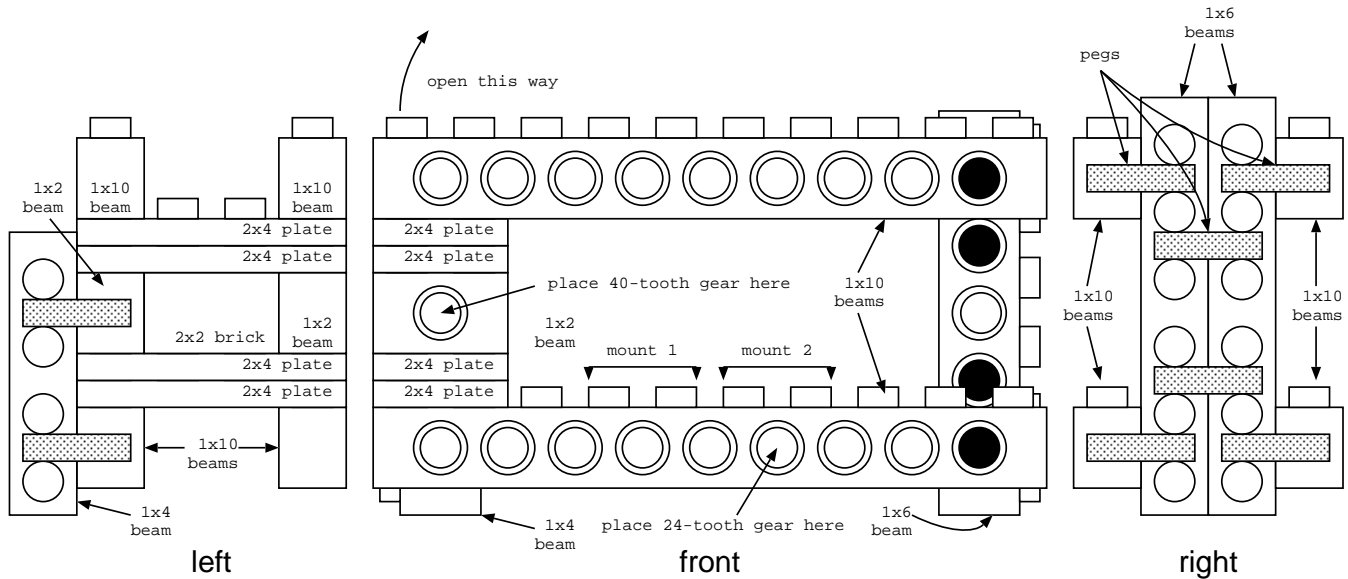

Figure 1: Motor Jig
- **Motor jig.** See the accompanying handouts to find how to construct the jig (the jig is reproduced in Figure 1. This LEGO gadget is useful for ensuring that the gears align. If your motor's gear is even a little bit off, you will notice it in both the performance of your robot and the sound that emanates from your robot. Reducing as much friction between LEGOs will lead to faster locomotion.